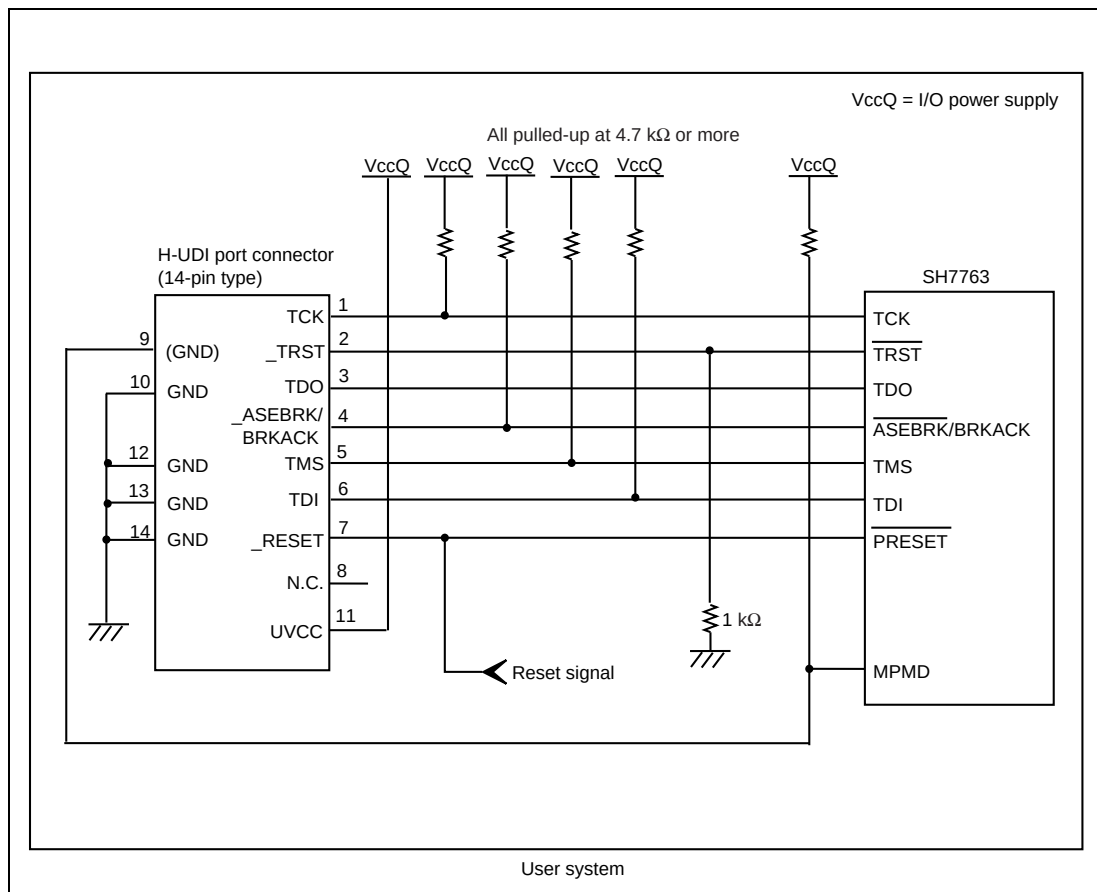

Figure 1.4 Recommended Circuit for Connection between the H-UDI Port Connector and MPU when the Emulator is in Use (14-Pin Type)
Figure 1.4 shows a recommended circuit for connection between the H-UDI and AUD port connectors (14 pins) and the MPU when the emulator is in use.
(1) When the emulator is used: MPMD = 0
(2) When the emulator is not used: MPMD = 1
Figure 1.4 shows an example of circuits that allow the MPMD pin to be GND (0) whenever the emulator is connected by using the user system interface cable.
6. The resistance values shown in figure 1.4 are preliminary.
When the circuit is connected as shown in figure 1.4, the switches of the emulator are set as SW2 = 1 and SW3 = 1. For details, refer to section 3.8, Setting the DIP Switches, in the SuperH™ Family E10A-USB Emulator User's Manual.